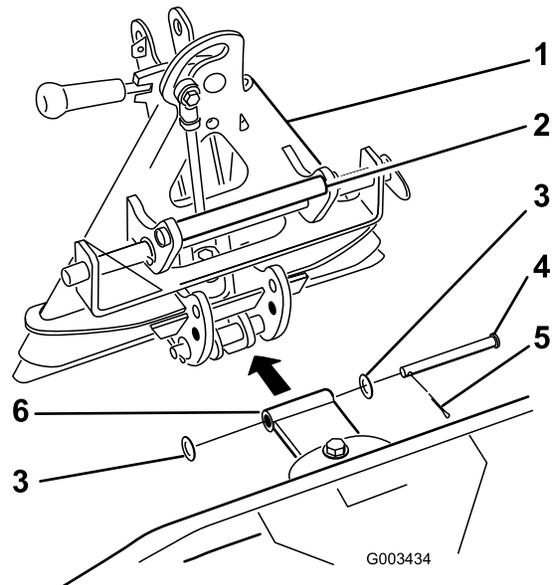

Figure 14
3. Connect the straight pivot bracket to the adapter as illustrated in Figure 14 with a clevis pin (1/2 x 4-1/2 inches), 2 washers (0.531 x 1.063), and a cotter pin.
Always lift and move the attachment using the handle on the back of the attachment adapter (Figure 14).